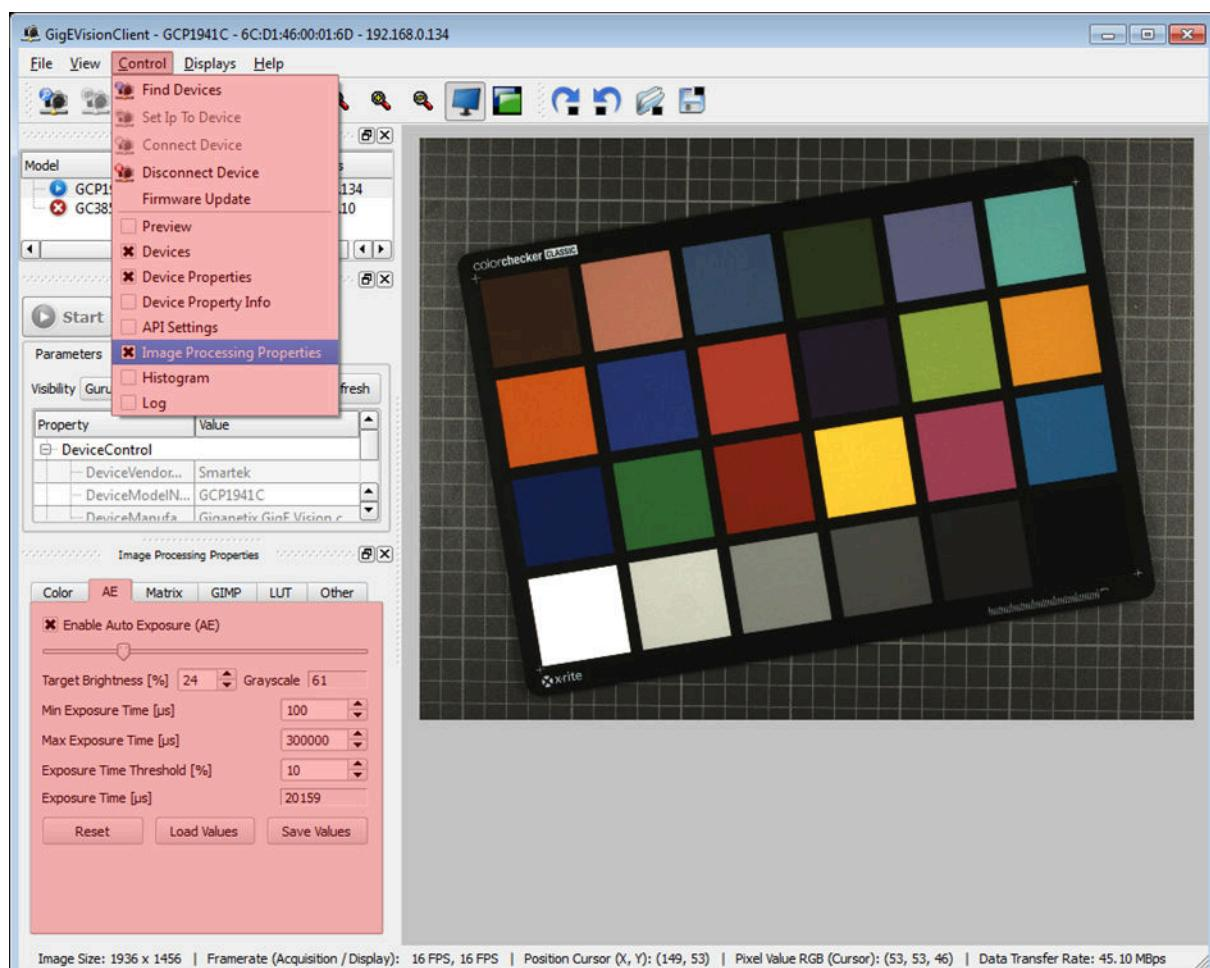

Figure 141: Auto Exposure in GigEVisionClient.
In the *GigEVisionClient* the Auto Exposure (AE) can be enabled / disabled in the *Image Processing Properties* panel under AE (see Figure 141). If not visible, the panel can be enabled by the menu bar entry *Control* ⇒ *Image Processing Properties*.